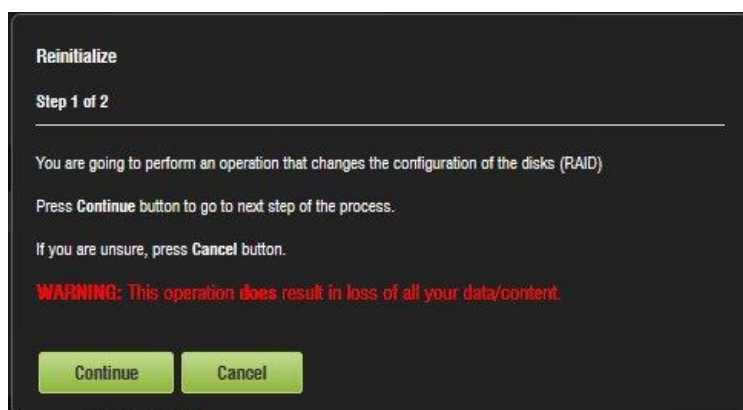

Figure 337: Confirmation Window
- The Reinitialize window will appear, again asking the user to confirm the operation (Figure 337).